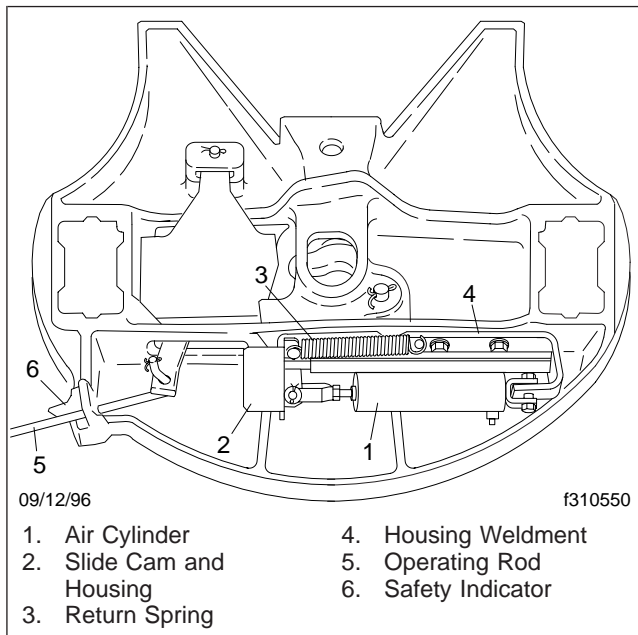

Fig. 8, Touchloc Control Mechanism Component Inspection
1. Thoroughly inspect the air cylinder (Fig. 8). It must retract and extend throughout the operating range without any interruption of piston travel.